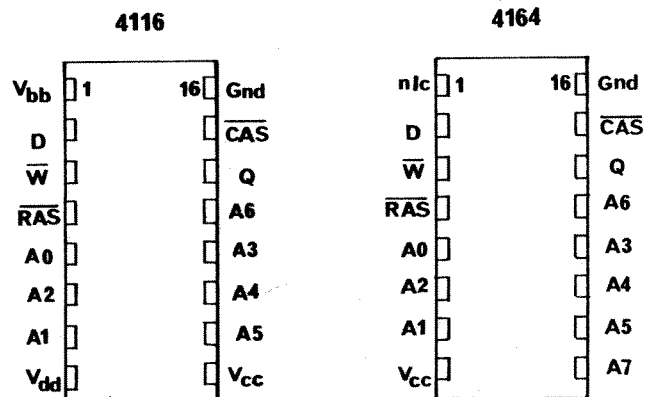

FIGURE 1
Let us start with a little background on dynamic RAM. This differs in several respects from static RAM, such as the 6116 discussed in 80-BUS News (2). Firstly, the chips we are interested in use address multiplexing; secondly, they have only two data pins, an input and an output; and, thirdly the data must be periodically refreshed. Also, because they are based on NMOS, rather than CMOS, the 4116 consumes rather more power than the equivalent-capacity 6116. Let us briefly consider the implications of these statements. Our understanding can be aided by Fig. 1, which gives the pin layout of the 4116 and 4164.